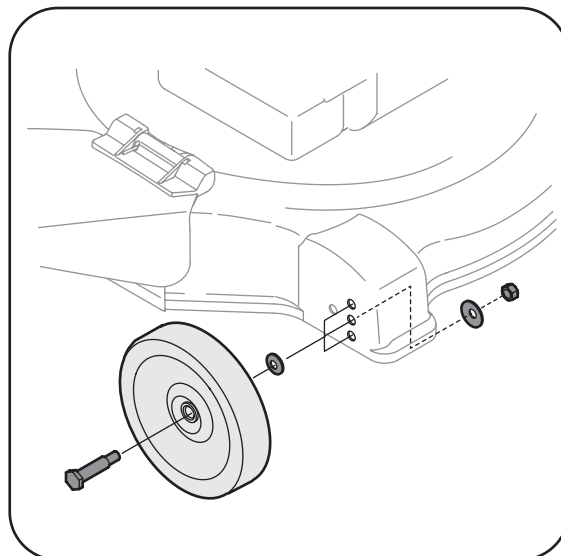

Figure 3-7
- a. Remove the carriage bolts and related hardware from the wheels as shown in Figure 3-7.